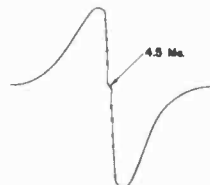

Fig. 36 Intercarrier Sound Response.
4. Inject a 4.5 Mc marker into the sweep and adjust the quadrature coil L64 until the marker falls at the base reference line (See Fig. 36).